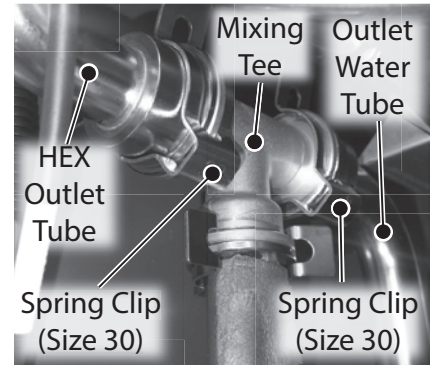

Figure 204 - Remove spring clips from HEX outlet tube and outlet water tube
**16** Remove the two (2) spring clips (size 30) securing mixing tee to HEX outlet tube and outlet water tube as shown in Figure 204. Place spring clips aside in a safe place for reinstallation.